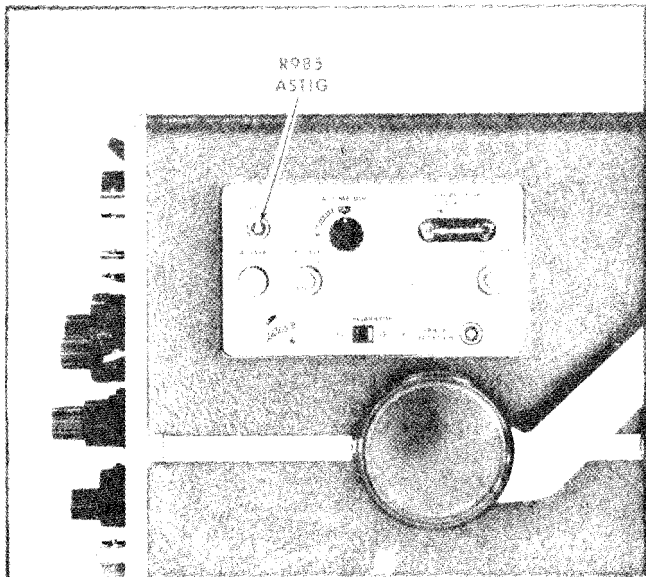

Fig. 6-11. Location of ASTIG adjustment (side panel)
g. ADJUST-FOCUS control and ASTIG adjustment, R985 (see Fig. 6-11), for best definition of the markers.